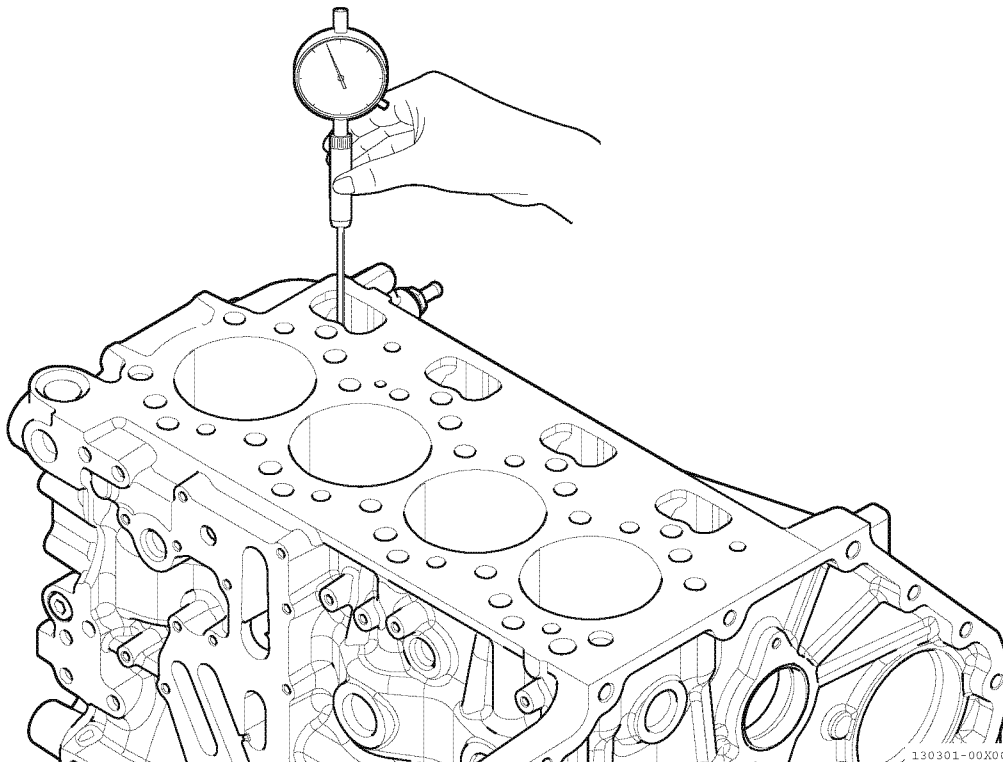

Fig.02-2
4. Use a cylinder gauge (1, Fig.02-2) from the head side of the cylinder block to measure the diameter of the tappet bore. For standard values, see 0000-07-01-02 "Tappet".